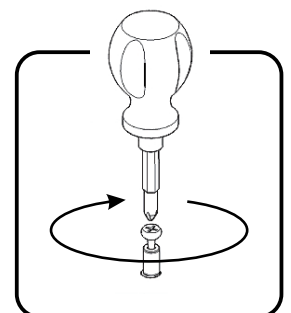

Figure 1
Insert Cam Lock Screws into pre-drilled holes of Top (A), Side Panels (B), (C), (D), (E), Top (J) and Base (K). (See Figure 1)